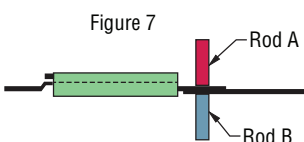
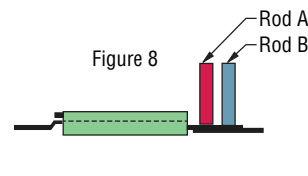

Figure 7
Figure 8
4. In breaker body welding, normally there is direct welding (Figure 7) and series welding (Figure 8). In either case, use a suitable jig so that stress will not exceed the limits stated above.